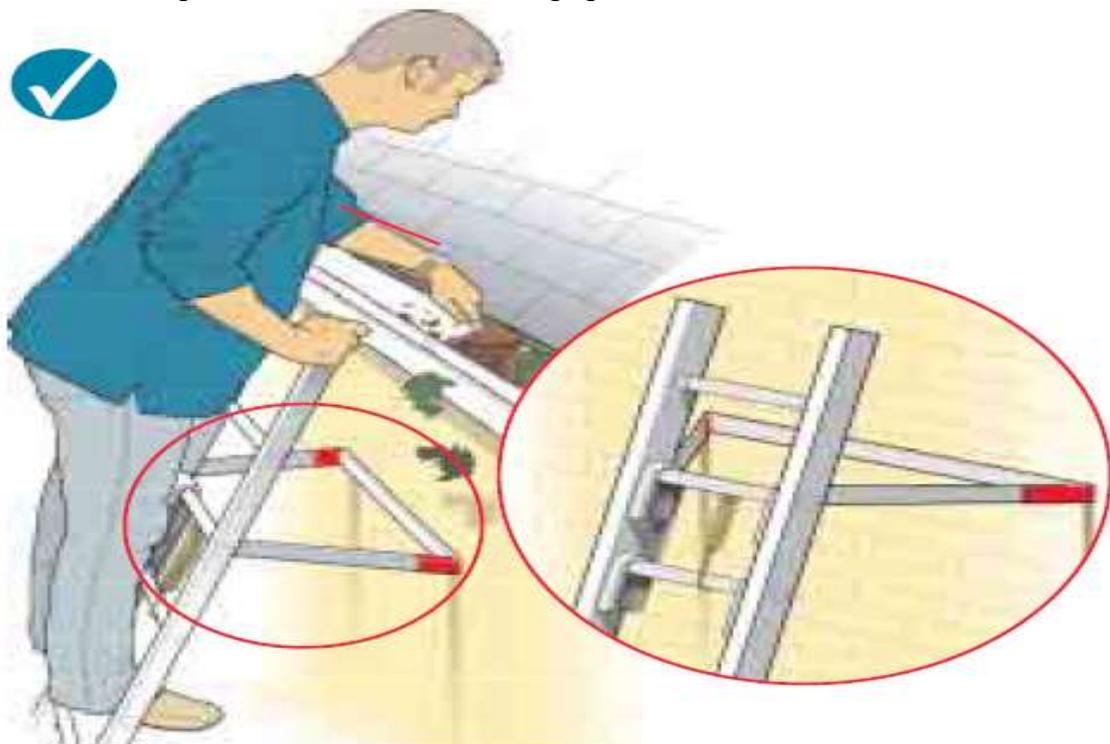

Figure 9 *Stand-off device and working maximum height on a ladder*
- don’t use the top three rungs (see Figure 9);